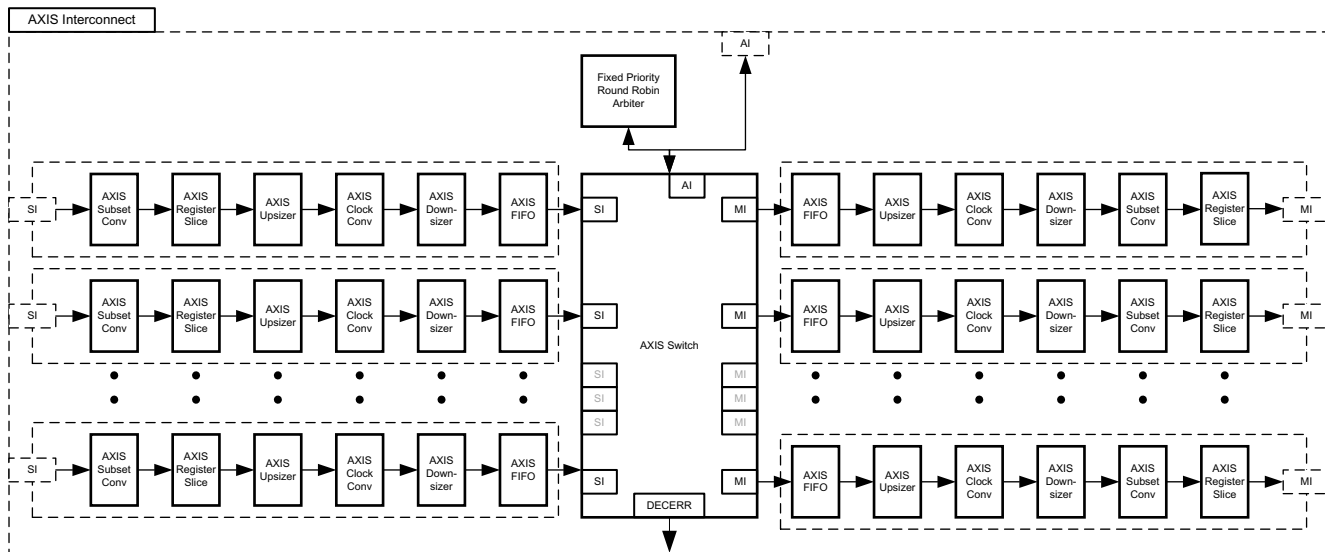

Figure 2-1: AXI4-Stream Interconnect Block Diagram
The AXI4-Stream Interconnect core is a collection of submodules centered around the AXI4-Stream Switch. There are submodules grouped together in datapaths before and after the switch that allow for data manipulation and flow control. Each individual submodule consists of AXI4-Stream protocol compliant master and slave interfaces. A block diagram of the AXI4-Stream Interconnect is shown in Figure 2-1.
In Figure 2-1 an AXI4-Stream Master can connect to what is designated as the Slave Interface (SI) of the AXI4-Stream Interconnect. Similarly, an AXI4-Stream Slave can connect to the Master Interface (MI) of the AXI4-Stream Interconnect. The AXI4-Stream Switch supports sparse configurations, SI side decoding, MI side arbitration (one arbiter per MI port), and various arbitration modes.